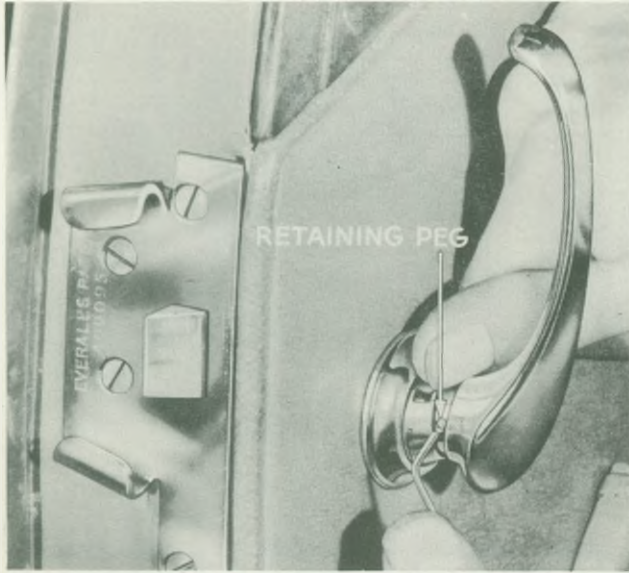
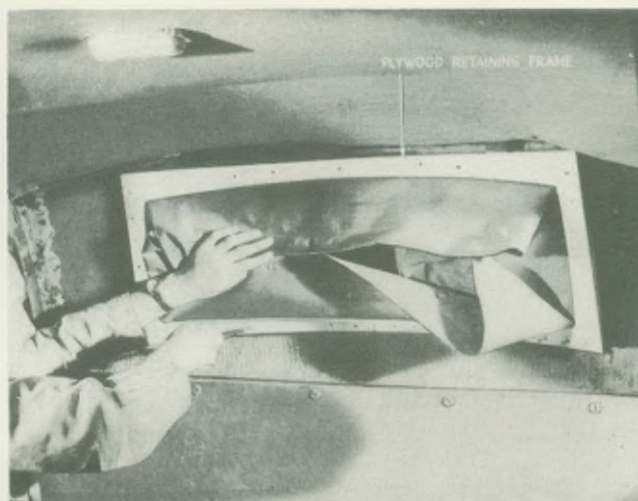

Fig. 17. Door handle escutcheon plate being depressed whilst the handle retaining peg is pushed out
Fig. 27. When removing the plywood rear light retaining frame, fold the rear panel trimming material as shown, to avoid creasing it as much as possible
1. Remove interior handles by depressing inner spring loaded escutcheon plate and pushing out handle retaining pegs in each case (see Fig. 17).
1. Inner door handle and window regulator handle (see Fig. 17).
7. The plywood rear light retaining frame (to which the trimming is solutioned on the inside) is now accessible for removal when the trimming cloth is lifted up to reveal the screw heads as shown in Fig. 27. It is advisable to fold the rear light panel trimmings as shown also in Fig. 17 to ensure that it is creased as little as possible if it is going to be used again.